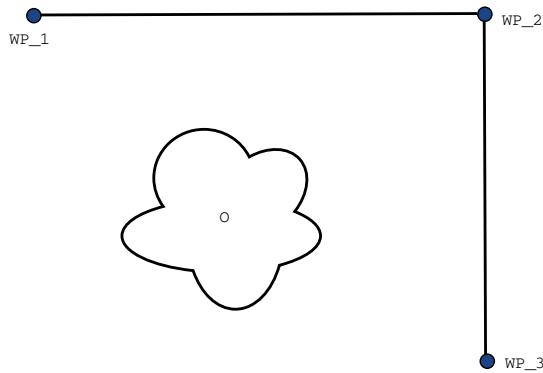

Figure 14.2: WP\_1: initial position, WP\_2: via point, WP\_3: pick up position, ○: obstacle.
**Example** Consider a pick and place application as an example (see figure 14.2), where the robot is currently at Waypoint 1 (`WP_1`), and it needs to pick up an object